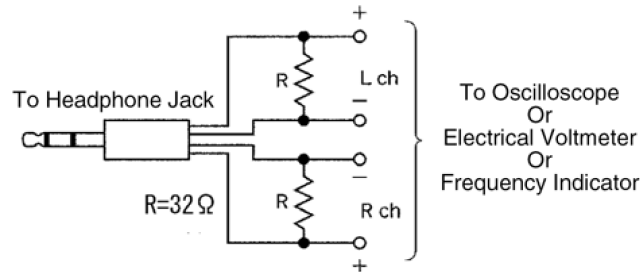

Fig. 8
- Headphone jack output jig (Fig 8)
3. Connect the headphone jack output jig (Fig 8) to headphone jack.